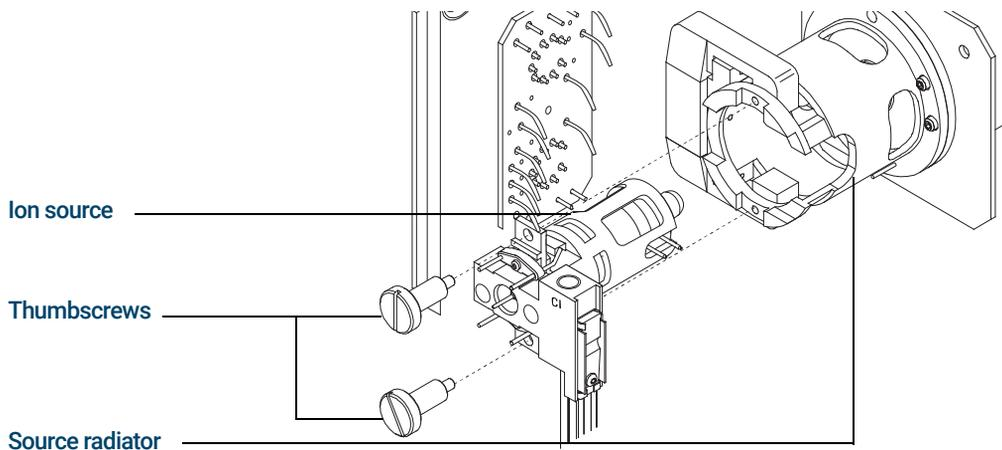

Figure 80. Installing the CI source
- 4 Install the thumbscrews. (See **Figure 80.**)